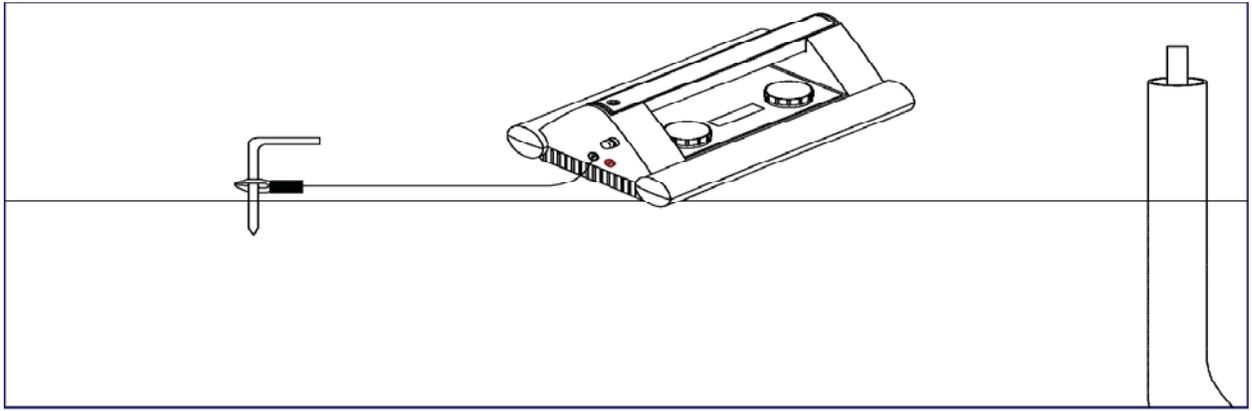

Figure 3-2: Clamping Black Lead to Ground Rod
- 4 Push grounding rod into earth and clamp black lead to grounding rod. Establish the best ground possible. **See figure 3-2**